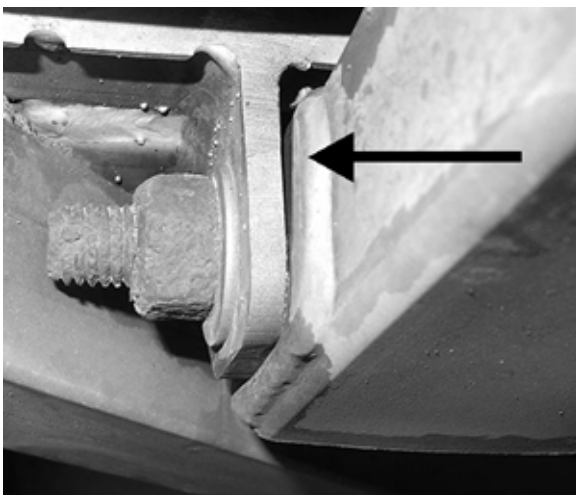

FIGURE 22: VISIBLE GAP ON TRANSVERSAL SCREW JOINT
- On the transversal screw joints (Figure 22) any visible gap between cradle support tubing and vehicle frame mounting lugs **is not acceptable**.
- On the transversal screw joints (Figure 22) any visible gap between cradle support tubing and vehicle frame mounting lugs is not acceptable.